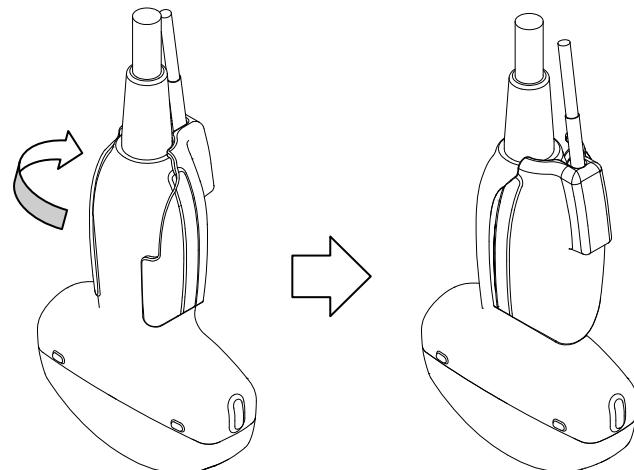

Fig.11 How to release the Magnetic sensor attachment
- 1) Turn around the magnetic sensor attachment and release it from probe as shown in Fig.11.